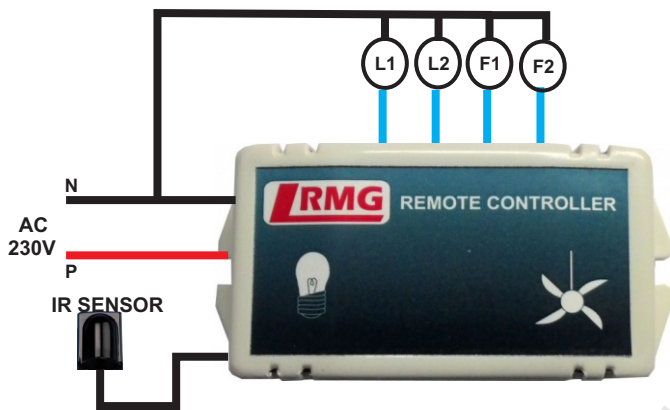
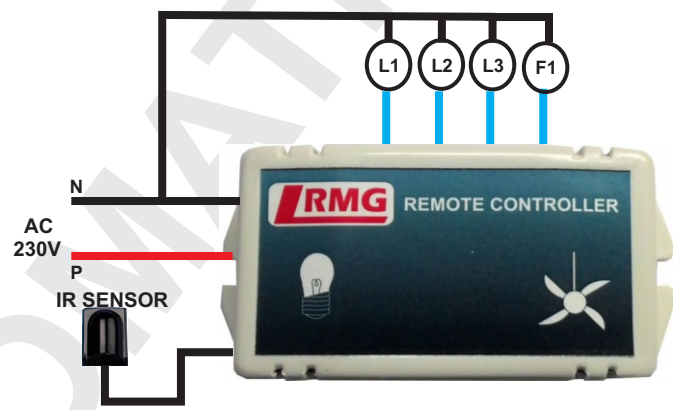
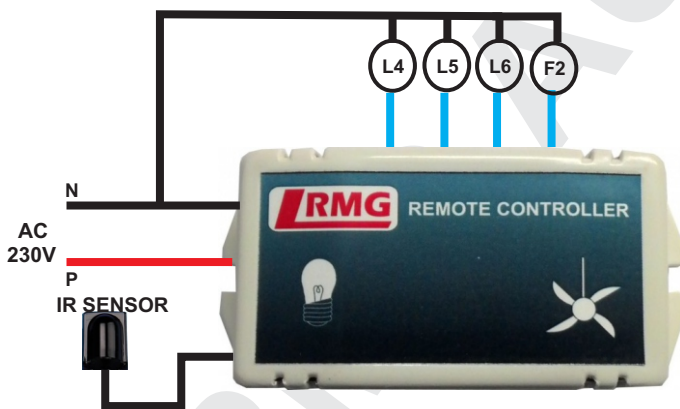

Figure1: Power & Load connection
Figure2: Power & Load connection
Figure3: Power & Load connection
Step 3: connect each blue wires from Remote switch to phase lines of the loads and connect each load's neutral line to neutral line of Remote Switch. **For 2 lights and 2 fans (2L2F) connection:** refer figure.1. **For 3 lights and 1 fan (3L1F) connection:** refer figure.2. **For 6 lights, 2 fan (6L2F) connection:** refer figure. 3 & 4. **For 9 lights, 2 fan (9L2F) connection:** refer figure.2,3 &4.